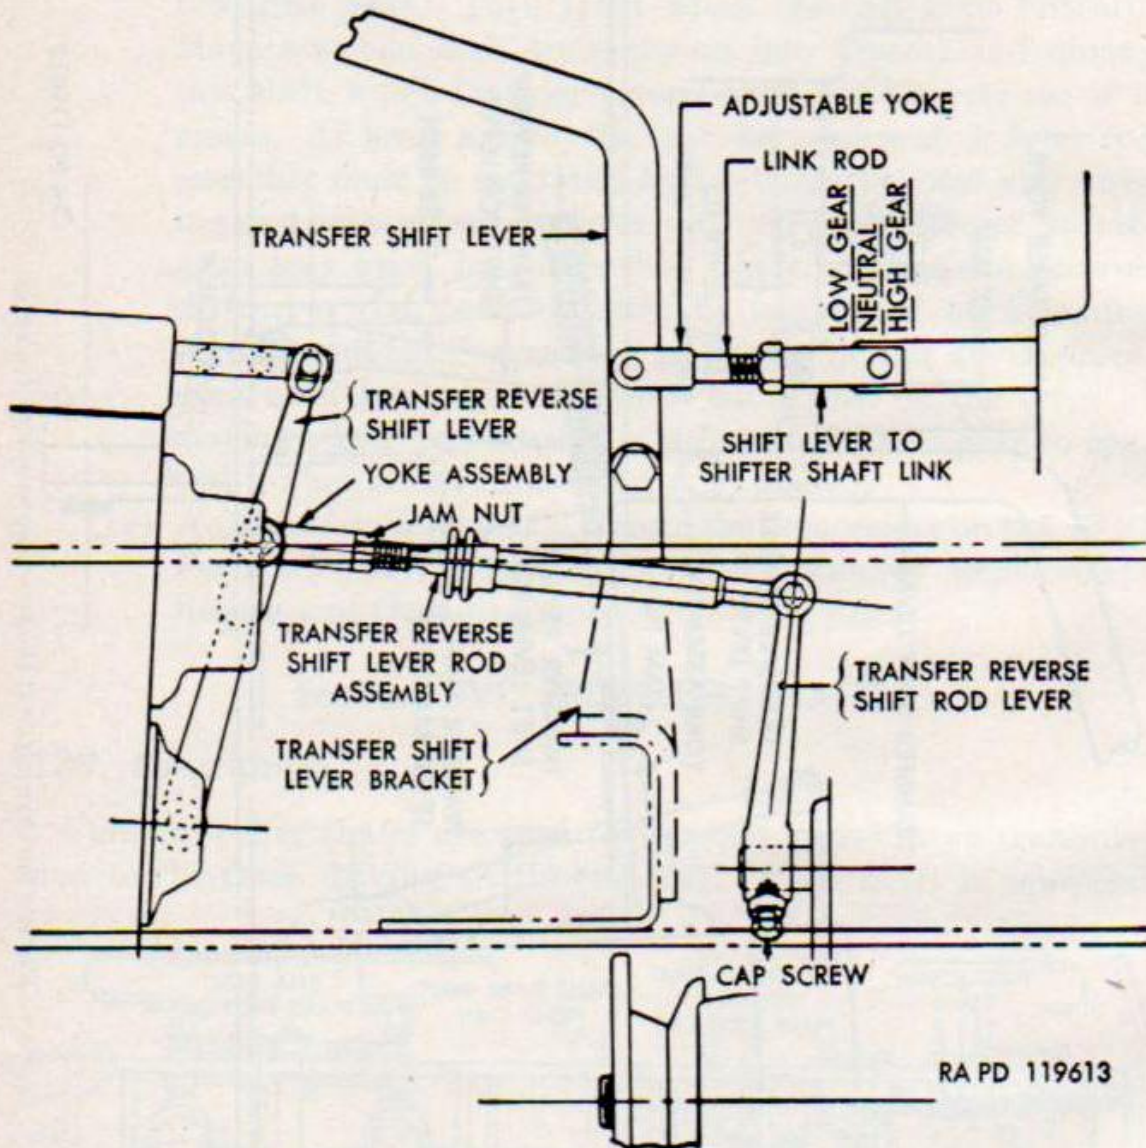

Figure 91. Transfer linkage—double sprag transfer.
Note. On single-sprag-unit, linkage reverse-shift-rod lever is installed with offset end away from transfer (fig. 90); on double sprag-unit, linkage offset end of lever is toward transfer (fig. 91).
- (6) *Connect propeller shafts.* Aline front and rear propeller shafts and transmission-to-transfer-propeller shaft, install bolts, and tighten securely.
- (7) *Check linkage adjustment* (fig. 91).
- (c) If both of these checks show linkage adjustment to be satisfactory, lower wheel and disregard (8) below. If adjustment is not correct, refer to (8) below.
- (8) *Adjust linkage* (fig. 91). If check of linkage adjustment ((7) above) indicated need for adjustment, shift transmission into first gear. Turn front wheel one-half turn forward. Have someone shift transmission into neutral and during this shift watch transfer-reverse-shift-rod lever to see if it moves. If lever moved, the transfer-reverse-shift-lever rod assembly must be shortened by loosening jam nut and turning rod into yoke. If lever did not move, proper adjustment may exist, but more than likely the transfer-reverse-shift-lever rod assembly must be lengthened by loosening jam nut and turning rod out of yoke. Repeat above procedure until lever does not move but is just on the verge of moving when transmission is shifted from first gear to neutral. Then check adjustment ((7) above).
- (9) *Record of replacement.* Record the replacement on DA AGO Form 478, MWO and Major Unit Assembly Replacement Record and Organizational Equipment File.